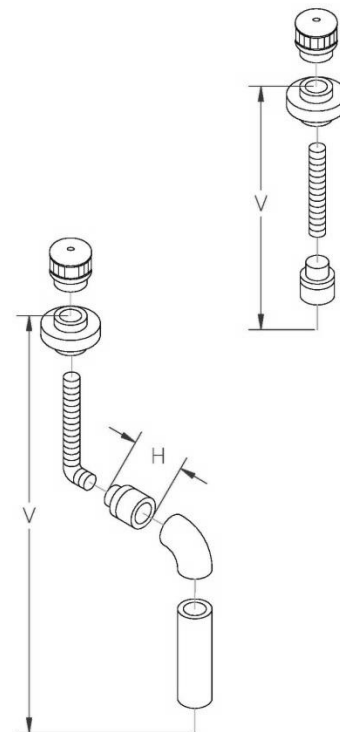

Figure 18 – Existing Chimney Venting Options
- All termination caps must be no less than 18" (457mm) horizontally from any roof or vertical surface. See Figure 18.
- 🔥 The termination must fall within the area shown in Figures 18 & 20.
- 🔥 All horizontal terminations must also comply with the clearance specifications to adjacent structures outlined in Figures 18 and 20.